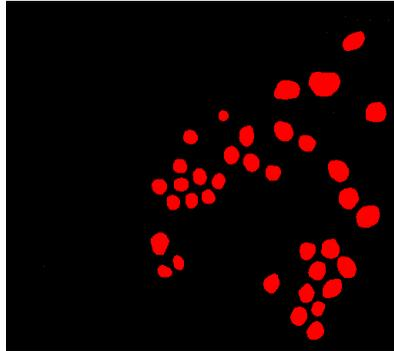

Figure 3-5. Isolating Circular Particles
6. Click **OK** to add this step to the script. The image now contains only circular particles, as shown in Figure 3-5.